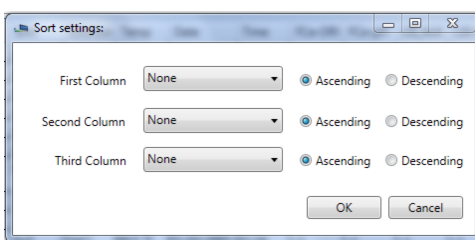

Figure 48
- 2) The following dialogue box will appear (Figure 48):